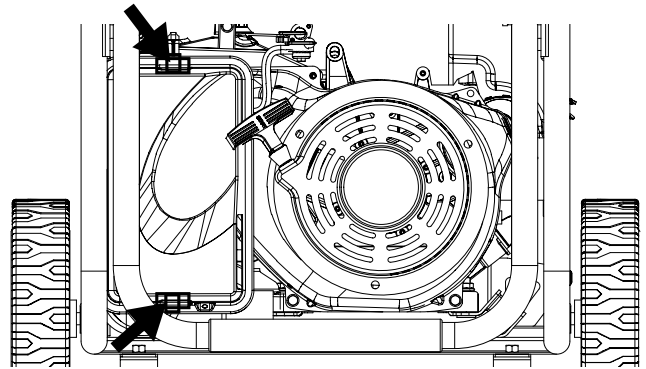

Figure 19 - Clips on air filter
3. Unclip the clips on the top and bottom of the air filter cover (Figure 19).